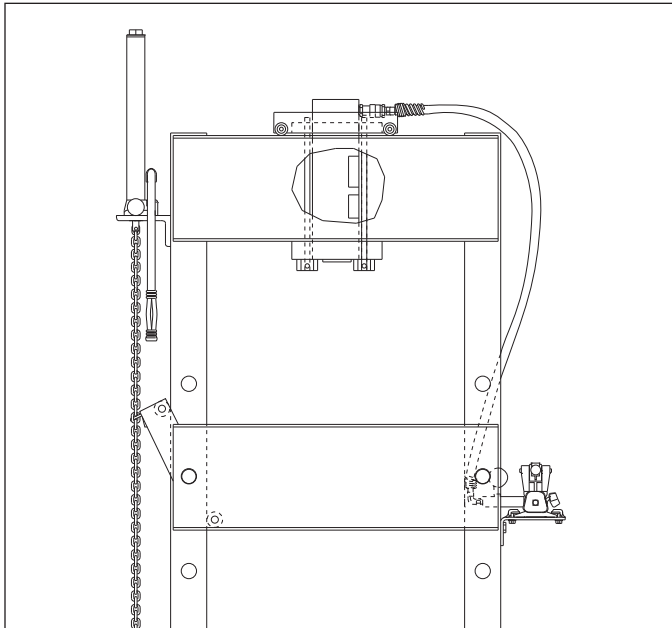

Figure 4. Hydraulic Connections for Single-Acting Cylinders
4.1 Single-Acting Cylinders (See Figure 4)